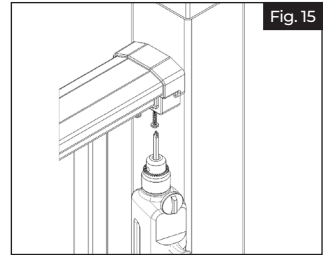

Fig. 15
- d. While tightly squeezing the bracket cover closed, pre-drill using a  $\frac{5}{32}$ " drill bit through the two holes underneath. Then, drive two #10 x 1" square drive screws through the cover, metal bracket and into the top rail (Fig 15).